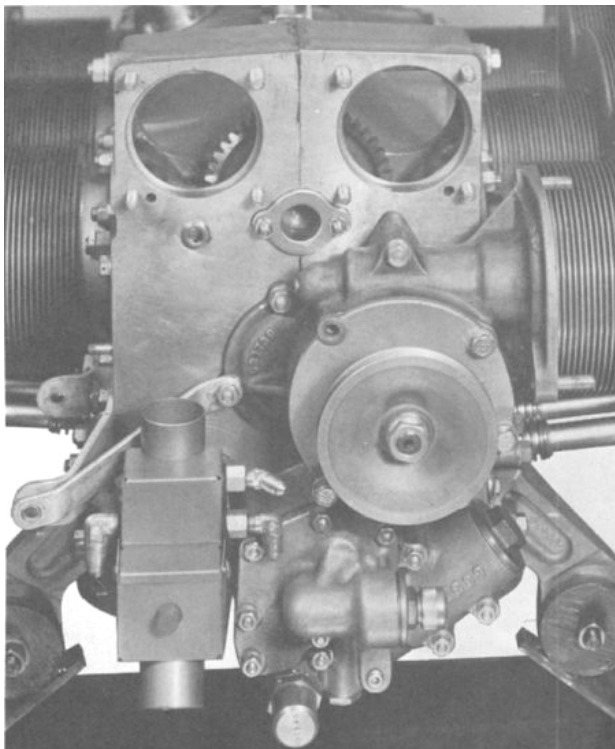

FIGURE 8-10. FUEL PUMP, OIL PUMP AND STARTER ADAPTER INSTALLED. SANDCAST CRANKCASE.
- b. Lubricate spur gear and mesh it with crankshaft gear as adapter is placed in position. Seat adapter against gasket. Secure adapter to sandcast crankcase with two sets of nuts and washers and two bolts and lockwashers. Attach lower generator support bracket as shown in Figure 8-10. Secure adapter to permold crankcase with five sets of nuts, plain washers and lockwashers.